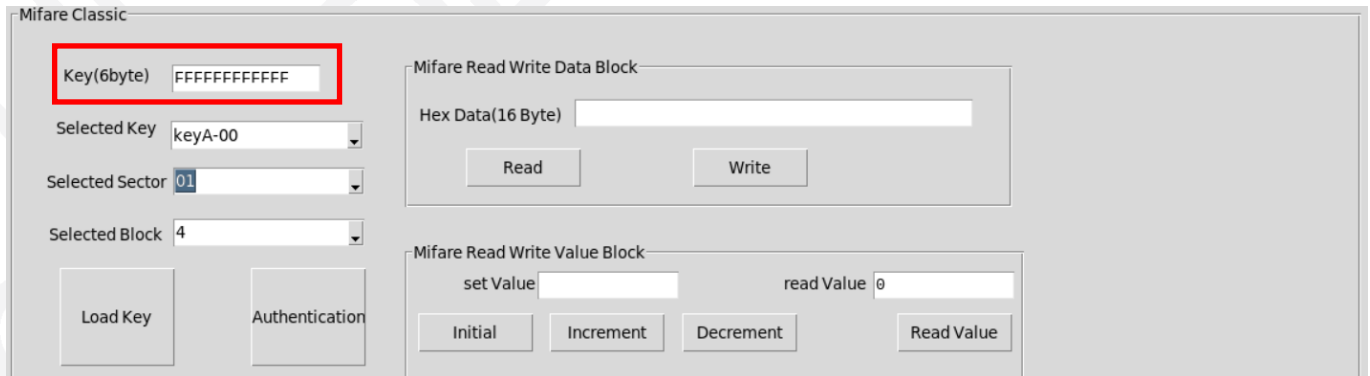

Figure 6.2-1 Input 6-byte hexadecimal key
2. Input 6-byte hexadecimal key to be used authentication, as shown in Figure 6.2-1.